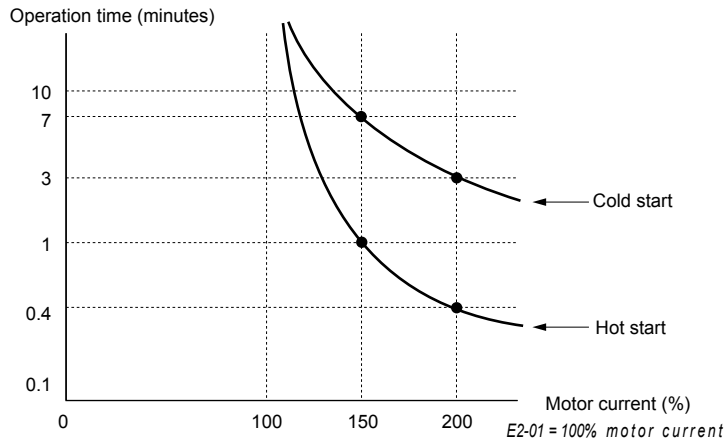

Figure 5.73 Motor Protection Operation Time
- Figure 5.73** shows an example of the electrothermal protection operation time using a general-purpose motor operating at 60 Hz with L1-02 set to one minute.